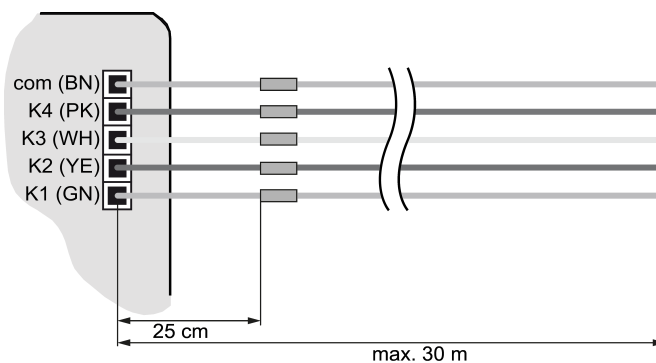

Figure 2: Maximum cable length
**i** For the extension of the enclosed cable set (see figure 2), observe the maximum cable length. The com cable for each cable set may not have a total length beyond 30 m in length.